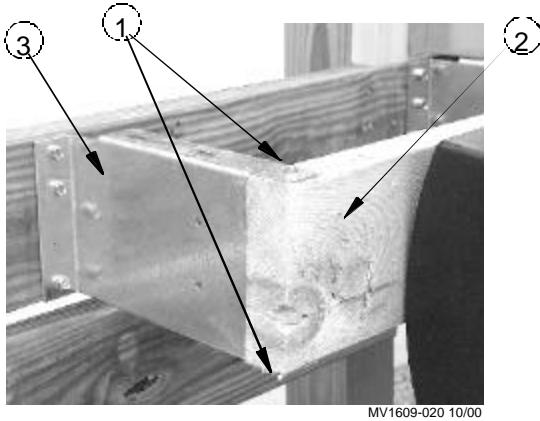
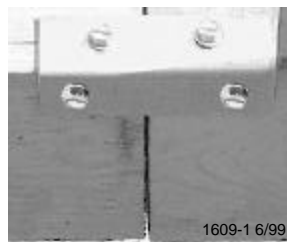

Figure 7. Bottom Bracket Connection
Figure 8. Connect mounting 2 x 6 with Angle Brackets
Important! Put lag bolt in the top and the bottom of the Bottom Bracket, as shown in Figure 7.
5. Install trough mounting 2 x 6 the full length of system using lag screws provided, shown in **Figure 7**. Connecting Angle Brackets also supplied to join the 2 x 6s together, shown in **Figure 8 and Figure 8B**.